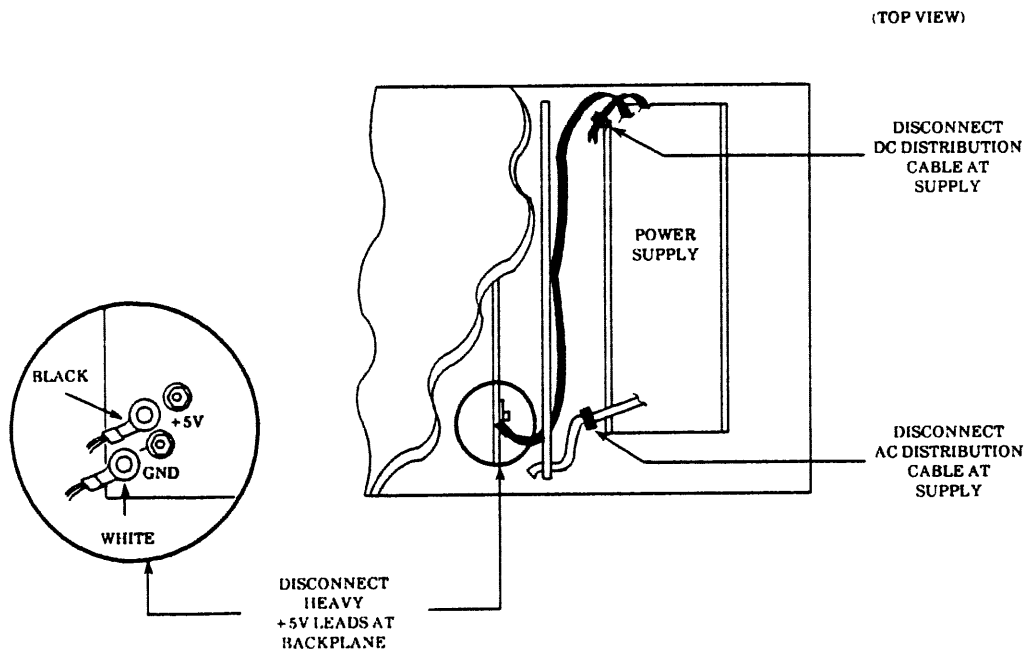

Figure 3-8. Power Supply Cables
4. Referring to Figure 3-8, disconnect the AC and DC distribution cable connectors located near the power supply.